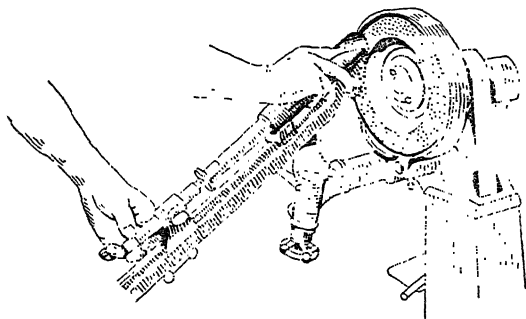

FIG. 132.—Drill grinder.
**140. Drill-grinding Machine** (Fig. 132).—In shops where any considerable amount of drilling is done it is economical to have a drill-grinding machine. This machine may be quickly adjusted to support a drill of any length or diameter in a wide range of sizes and is so designed that it is a very simple matter